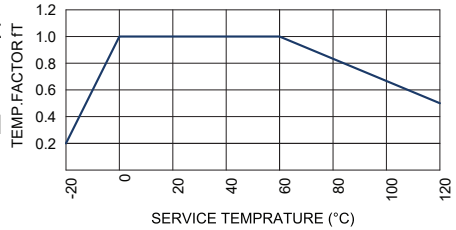

Fig.2 Temperature Factor
If the temperature of the screw nut exceeds the normal temperature range, the seizure resistance of the nut and the strength of the material will decrease. Therefore, it is necessary to multiply the dynamic permissible thrust (F) by the corresponding temp. factor indicated in Fig.2 .
f_T : Temperature factor (see Fig.2)